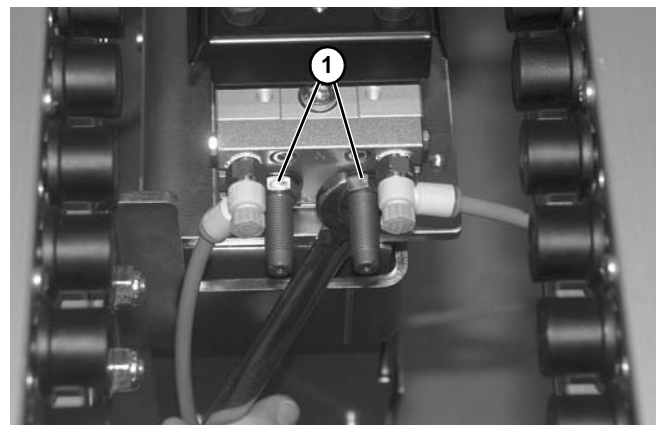

Figure 52
1. Loosen nuts (**Figure 52, item 1**) with an open-end wrench.